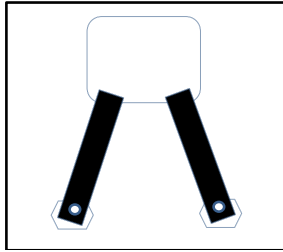

Figure 1: 09 - 14 RAM 1500, 2500, 3500, exc. 2014 1500 Quad Cab.
Step 6: Using the 3/8" threaded clips, slide two clips in the upper rectangular hole, and align one clip in each hex hole so the clip threads are visible. **Figure 1**